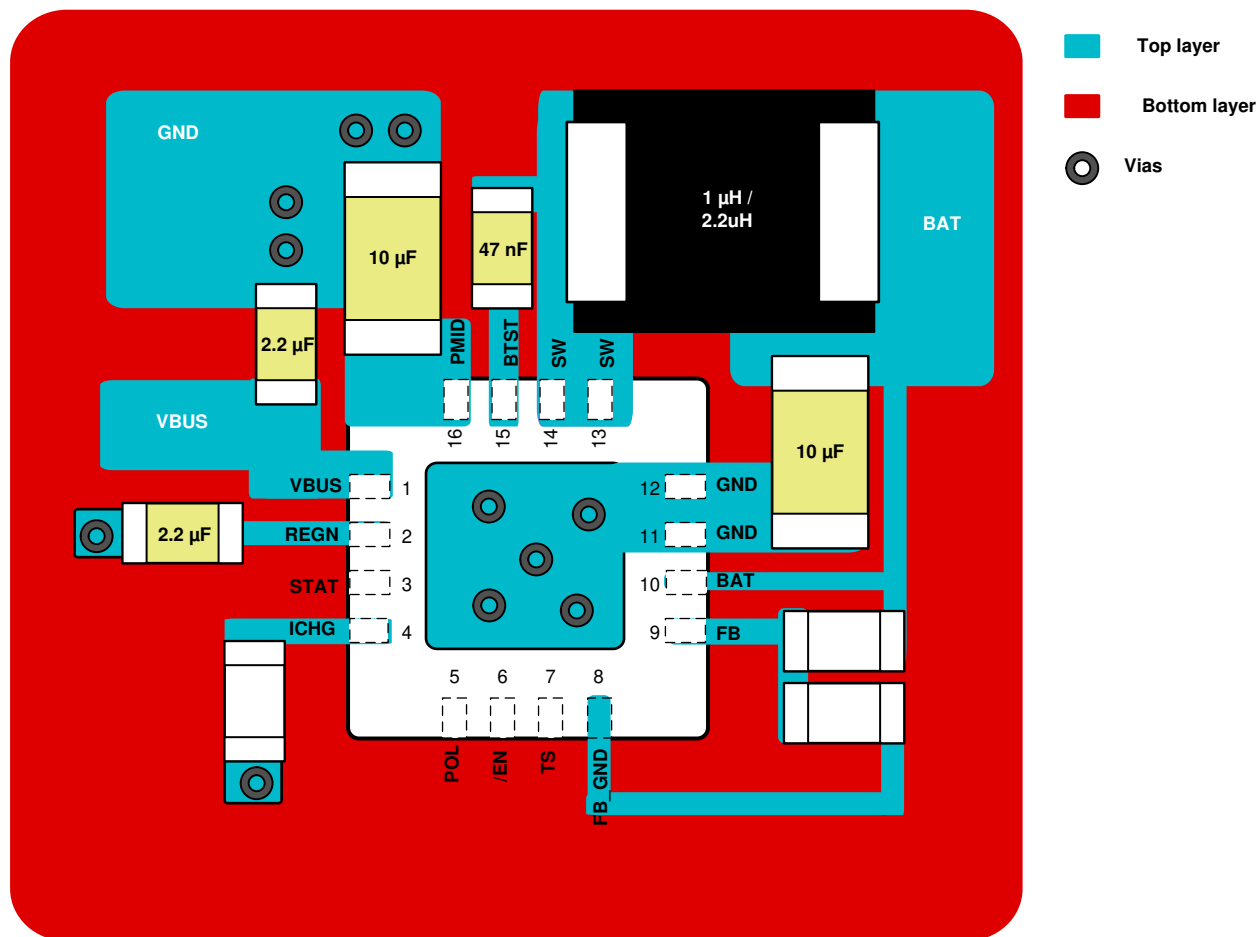

图 12-2. Layout Example
- See the 2 layer PCB design example in 图 12-2 for the recommended component placement with trace, grounding and via locations.
The device pinout and component count are optimized for a 2 layer PCB design. The 2-layer PCB layout example is shown in 图 12-2.